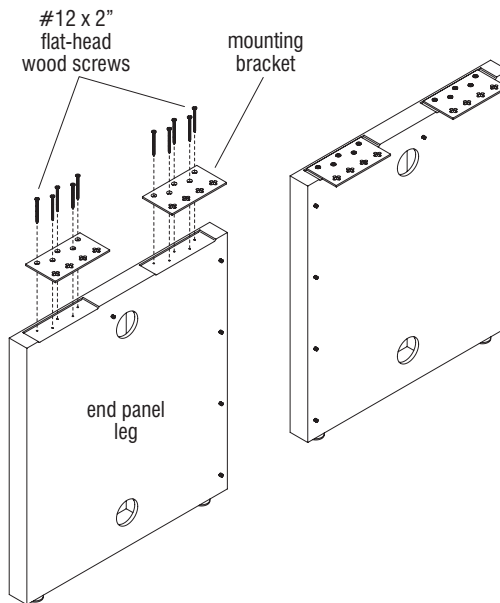

Figure 2
4. Carefully rotate panel legs into the upright position and balance, or lean them against a sturdy surface. Locate two mounting bracket cutouts at the top of each end panel leg. Position a mounting bracket over one cutout and align the five mounting holes on the bracket with the five pilot holes in the cutout. Secure the bracket to the panel leg using five #12 x 2" flat-head wood screws. Repeat this process to secure the remaining brackets to end panel legs (Figure 2).